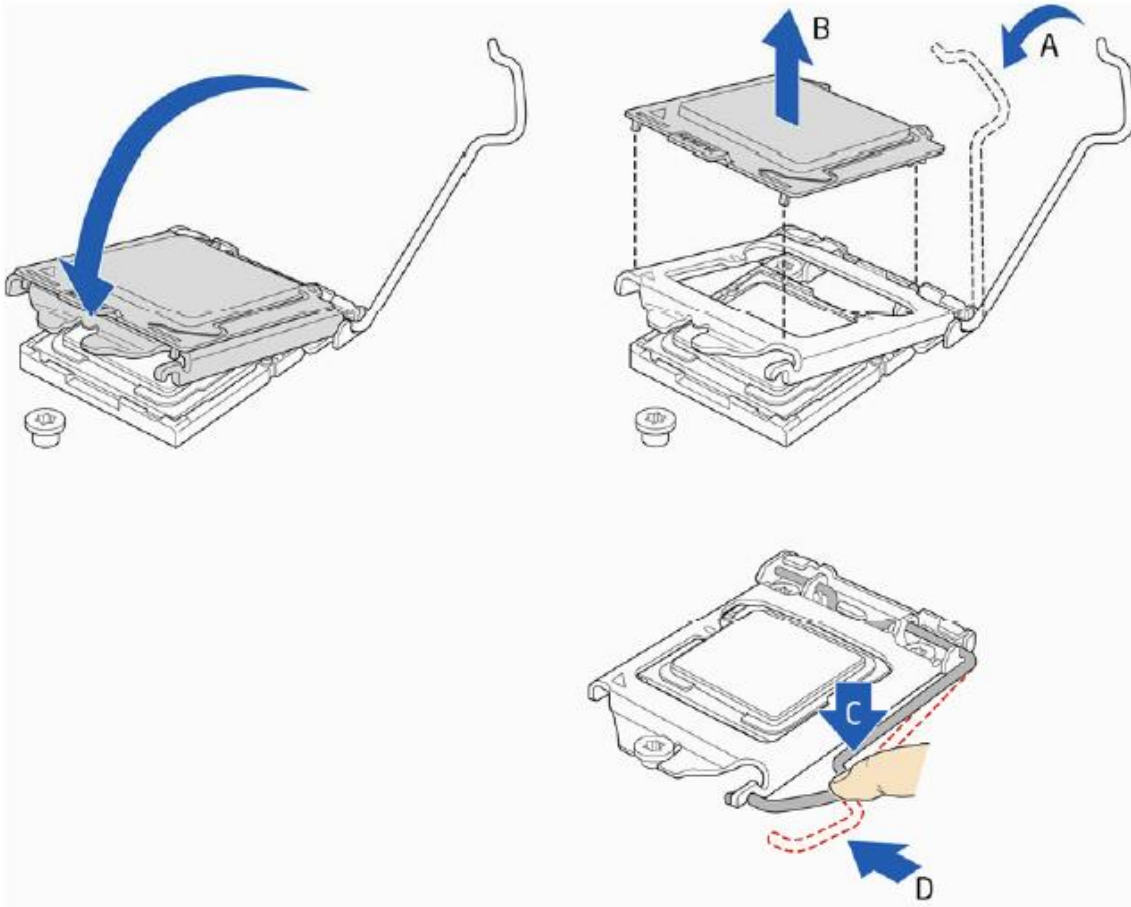

Figure 8: Secure the load plate in place
- Carefully lower the socket lever (Figure 8) while making sure that the front edge of the load plate slides under the shoulder screw cap as the lever is lowered. Latch the socket lever under the load plate tab (Figure 8, C, and D). The socket cover (Figure 8, B) will pop off as shown.